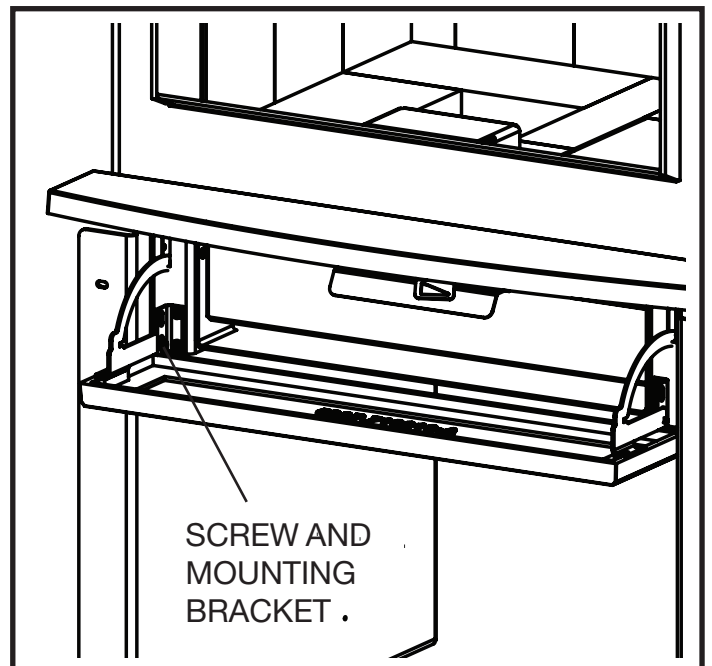

Figure 8: Removing leg adapter cover.
10. Lift and turn the leg adapter down as shown in Figure 8. Remove the screws securing the leg adapter cover to the mounting brackets on the left and right of the leg adapter cover (Figure 8).